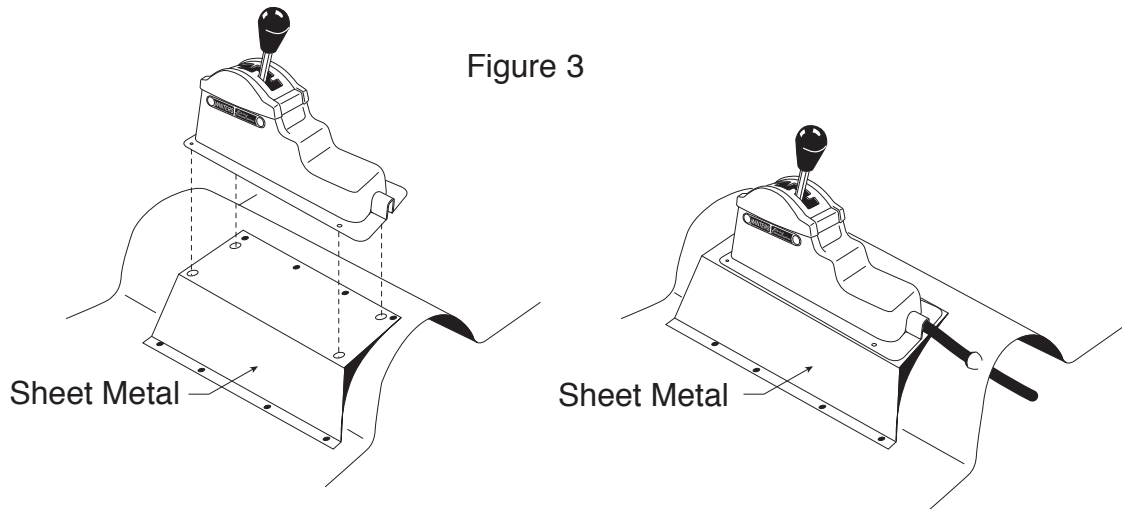

Figure 3
- I. Drill 5/8" diameter hole in floor for cable to exit. By inserting a drill or rod in hole and bending the sheet metal you can obtain a hole that will allow the cable to enter and exit more smoothly. After feeding the cable through, secure console in position using screws as shown in figure 3, reverse side.